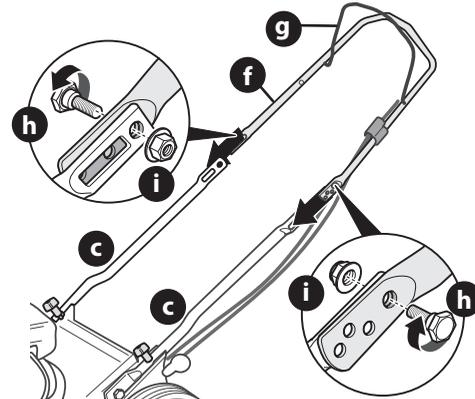

Figure 3
- Align the upper handle (f) with the lower handle tube (c) so that the blade control lever (g) faces up. Do not crimp blade or drive control cables while positioning the upper handle (Figure 3).
- While stabilizing mower so it does not move, use two hex head screws (h) and nuts (i), secure the upper handle to the lower handles. Do Not fully tighten the two hex head screws and nuts (Figure 3 Inset).